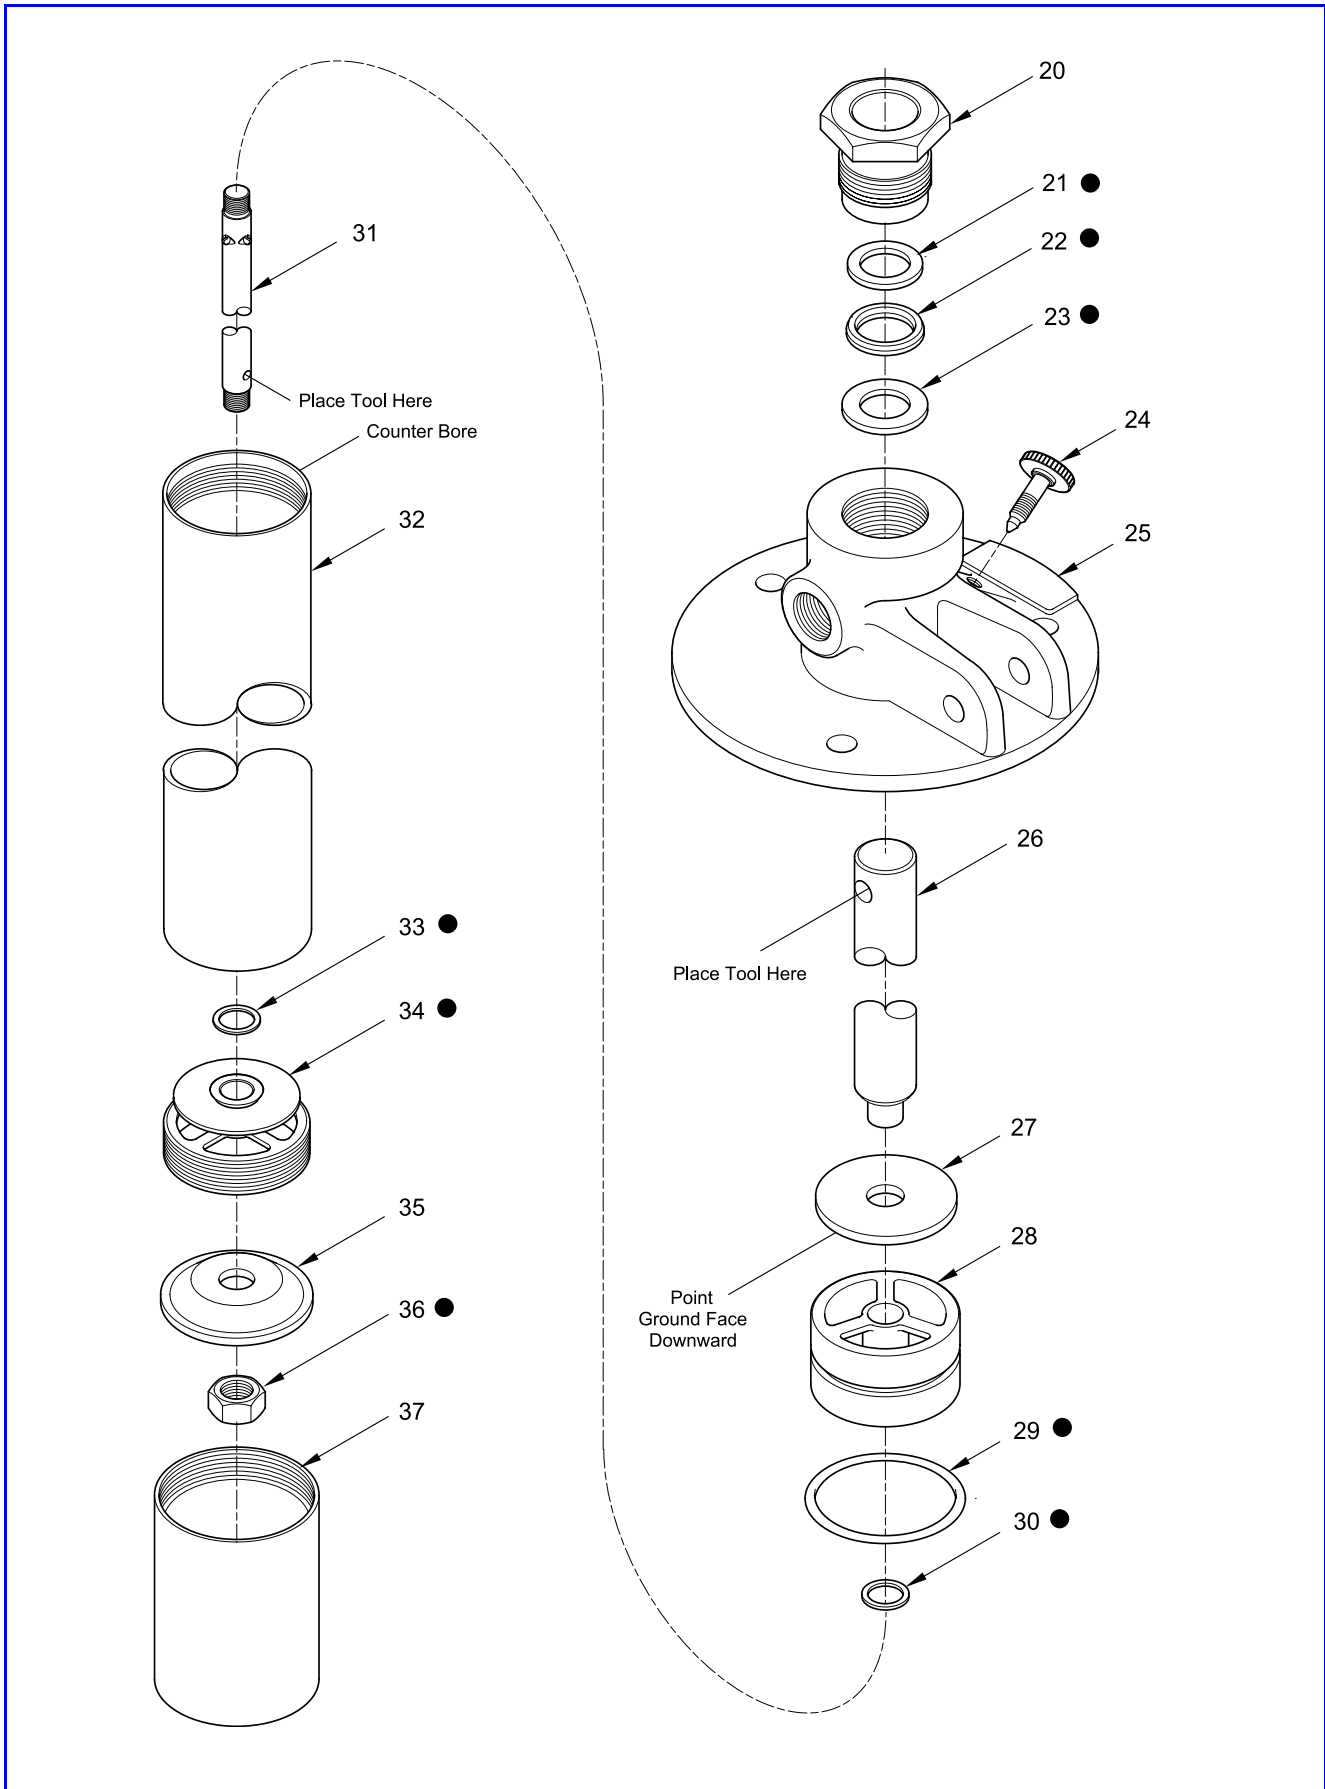

Figure 3 Pump Tube Assembly for Model 7181 Series - Exploded View
NOTE: Refer to **Figure 3** for component identification on the pump tube procedures.
14. Remove Bushing (20), Packing Washer (21), Block-V Packing (22), and Gasket (23) from the Body.
- Use tools to prevent rotation. See **Figure 3**.
16. Remove Washer (27), Plunger Body (28), and Washer (30) from the Lower Rod.
17. Remove O-Ring (29) from the Plunger Body.
- Install Washer (30), Plunger Body assembly, and Washer (27) [ground face downward] onto the top of Lower Rod (31).
- Install Cylinder (32) [counter bore first] onto the rod assembly and screw onto the Body. See **Figure 3**.
- Install Washer (33) onto the Lower Rod.
- Install Foot Valve Assembly (34) onto the Lower Rod and screw into the Cylinder.
- Screw Tube (37) onto the Foot Valve Assembly.